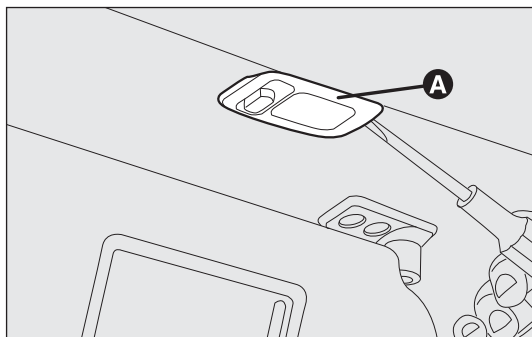

fig. 184
## COURTESY LIGHT fig. 184
- remove the light A-fig. 184 by levering on the points shown by the arrow.